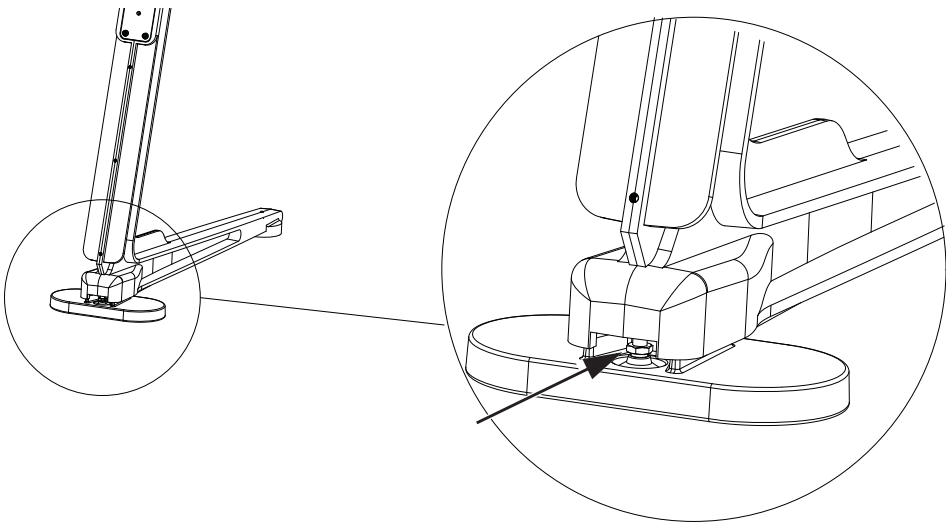

Figure 7. Back Leg Leveler
- Use the 13 mm open end wrench (included with the Legs) and adjust the back leveling feet (see Figure 7). When looking down at the feet from above, turn the wrench clockwise to raise or counterclockwise to lower.